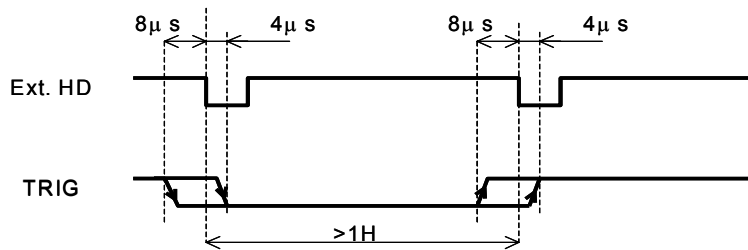
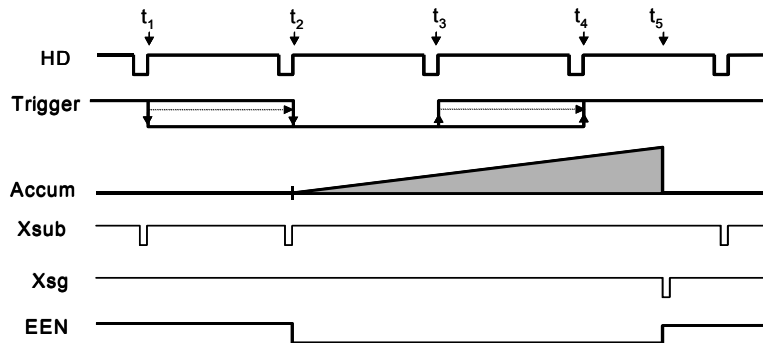
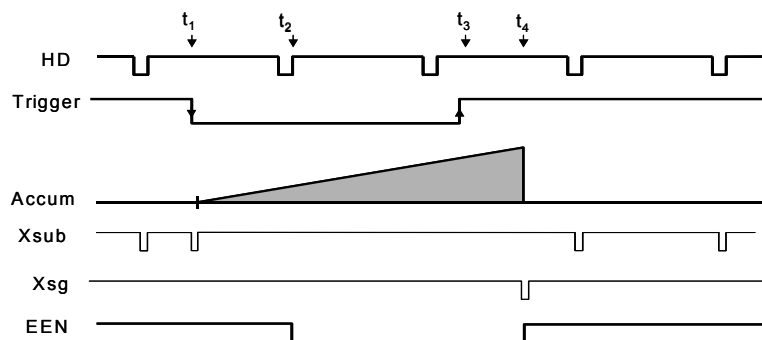

Fig. 17. Trigger/HD Timing.
Fig.18. Pulse Width H Synchronous Accumulation
Fig. 19. Pulse Width H Asynchronous Accumulation.
The default accumulation is HD synchronously accumulation (HC=0). The accumulation starts at the first HD after the trigger leading edge. Fig. 18. To avoid the  $<1H$  jitter caused by this delay, synchronize the external trigger to HD as shown in fig. 17 below. The trigger level translations should be placed inside the  $8 + 4 \mu\text{s}$ .
In PWC mode (TR =2) and Frame Delay readout (TR=3), the accumulation mode *HC* can be set to asynchronous accumulation (HC=1). The exposure will start immediately at the leading edge of the trigger pulse without waiting for the HD. Fig. 19. below.
- The start of exposure will start synchronized to the internal H signal. The start may be shifted max 1H. To avoid this shift (1 H jitter), synchronize the camera to an external HD and make sure that the trigger pulse aligns to the HD as shown in fig. 17.
- With HC=0 the start of exposure will start synchronized to the internal H signal. The start may be shifted max 1H. To avoid this shift (1 H jitter), synchronize the camera to an external HD and make sure that the trigger pulse aligns to the HD as shown in fig. 17. With HC=1 the exposure will start immediately. Refer to fig. 18 and fig. 19.
- With HC=0 the start of exposure will start synchronized to the internal H signal, the start of exposure may be shifted max 1H. To avoid this shift (jitter), synchronize the camera to an external HD and make sure that the trigger pulse aligns to the HD as shown in fig. 17.
- With HC=1 the exposure will start immediately. Refer to fig. 18 and fig. 19.